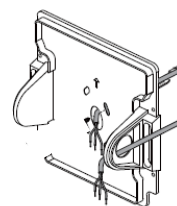

Fig. 2
- Feed the mains cable through the back of the casing or side, using a rubber grommet to retain IP rating, and secure the baseplate to the surface (see Fig. 2)